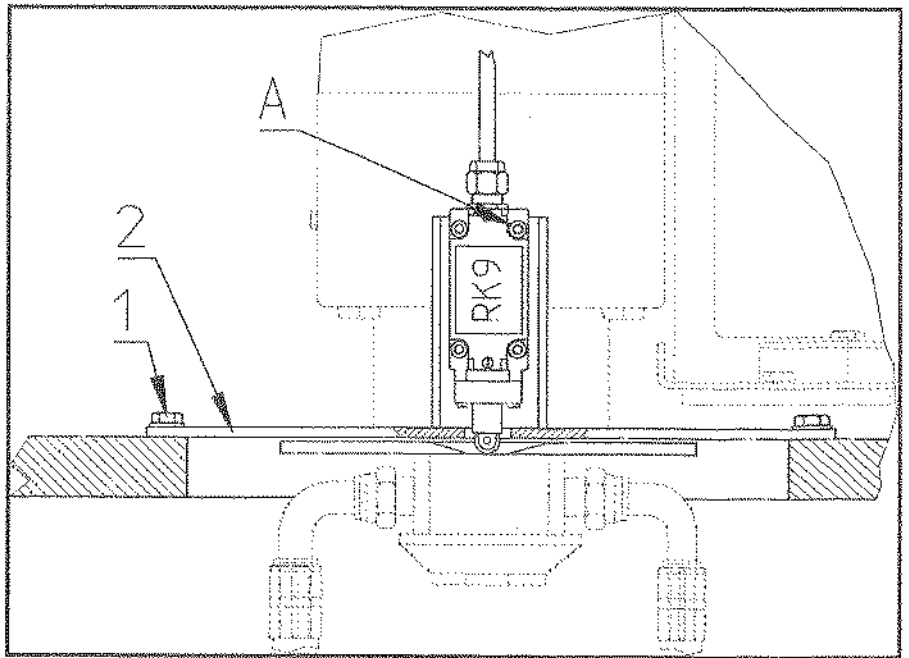

Figure 20-2
2. Loosen fixing screws 1 (figure 20-2).